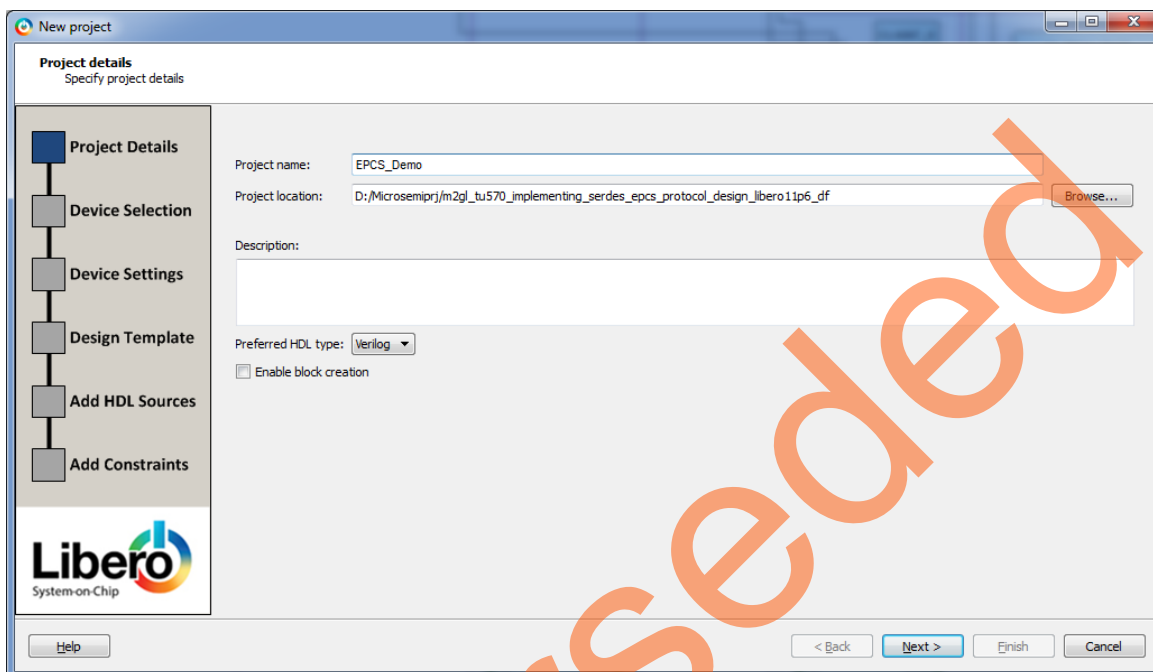

Figure 16 • New Project Window - Project Details
2. Select **New** on the **Start Page** tab to create a new project, or select **Project > New Project** from the Libero SoC menu. Figure 16 on page 20 shows the IGLOO2 **New Project** window.